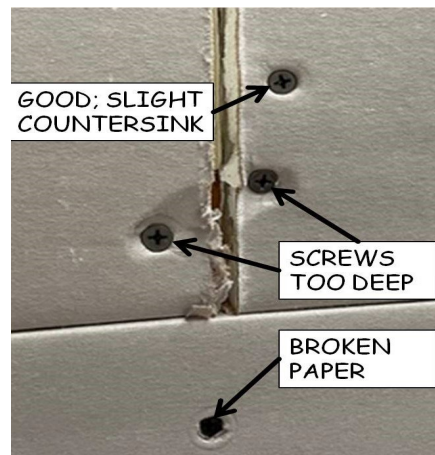

Figure 14-3. Examples of Countersunk Sheetrock Screws.
2. **Screws should be installed straight in (i.e., at a 90° angle to the sheetrock) and deep enough so the head is SLIGHTLY recessed (countersunk) below the paper surface of the sheetrock. If the outer layer of paper is torn, or the gypsum is crushed between the paper layers, the screw is too deep (see Figure 14-3) and the holding power of the screw is compromised. Leave the screw in place but add another 2" away. Adjust the depth setting of the driver to ensure the correct depth.**